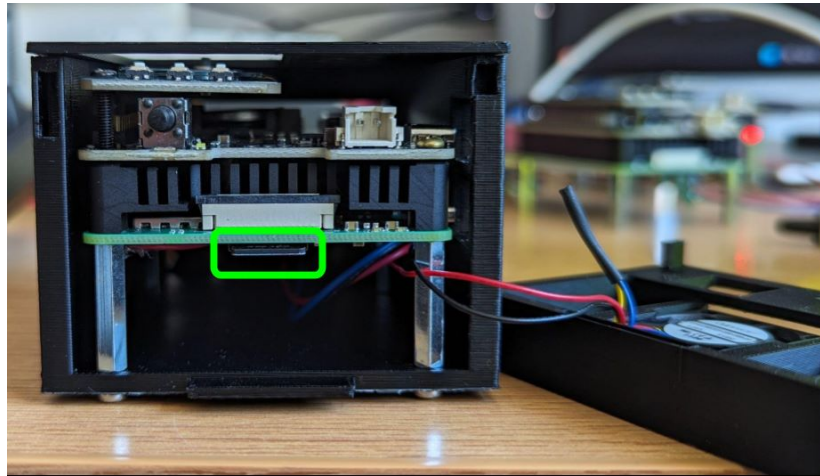

Fig. 9. MicroSD Card Location
- **MicroSD Card Replacement:** If the Sonde-Pi is powered on 24/7, the microSD card will need an annual replacement due to their limited number of write cycles. The green box in Figure 9 shows the location of the microSD card on the Sonde-Pi. Before opening the Sonde-Pi's case, disconnect the USB-C or 12V power cable from the Sonde-Pi. To gain access to the microSD card, gently pull off the section of the case that houses the fan. It is recommended to use a small flathead screwdriver to slowly pull the end of the case off. **Note: If the Sonde-Pi is not left on 24/7, but is turned off after instrument calibration or a flight, the microSD card can be replaced every two years instead.** After swapping out the microSD card, a software update will be required. Instructions to perform a software update will follow the request to change the microSD card.